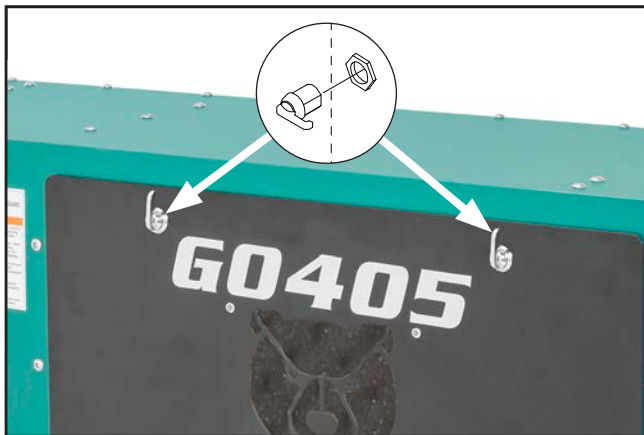

Figure 12. Lock handles facing up on maintenance door.
7. Attach (2) lock handles to maintenance door with (2) lock handle nuts. Ensure lock handle is facing up toward the top of the machine when the maintenance door is closed (see **Figure 12**).